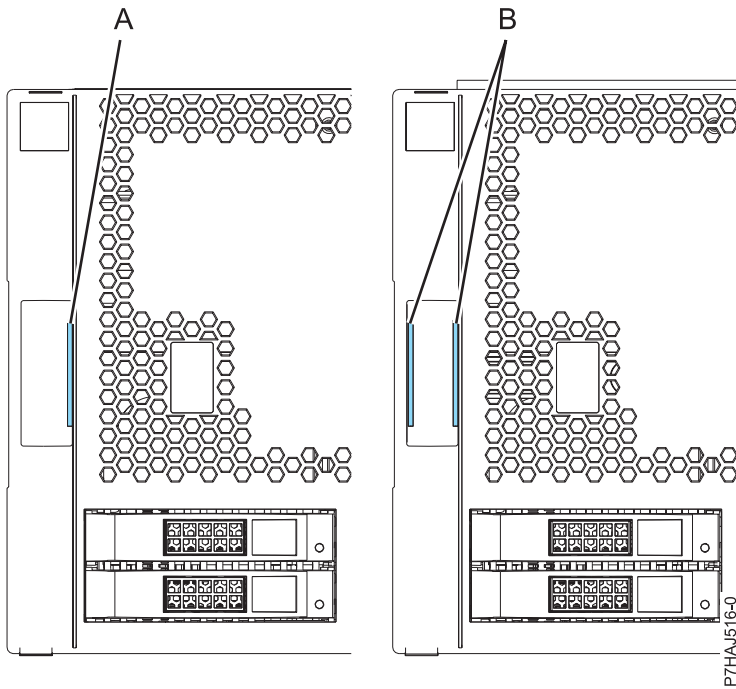

Figure 95. Identifying the older and newer covers
stripes (B) on the cover assembly latches. See Figure 95.